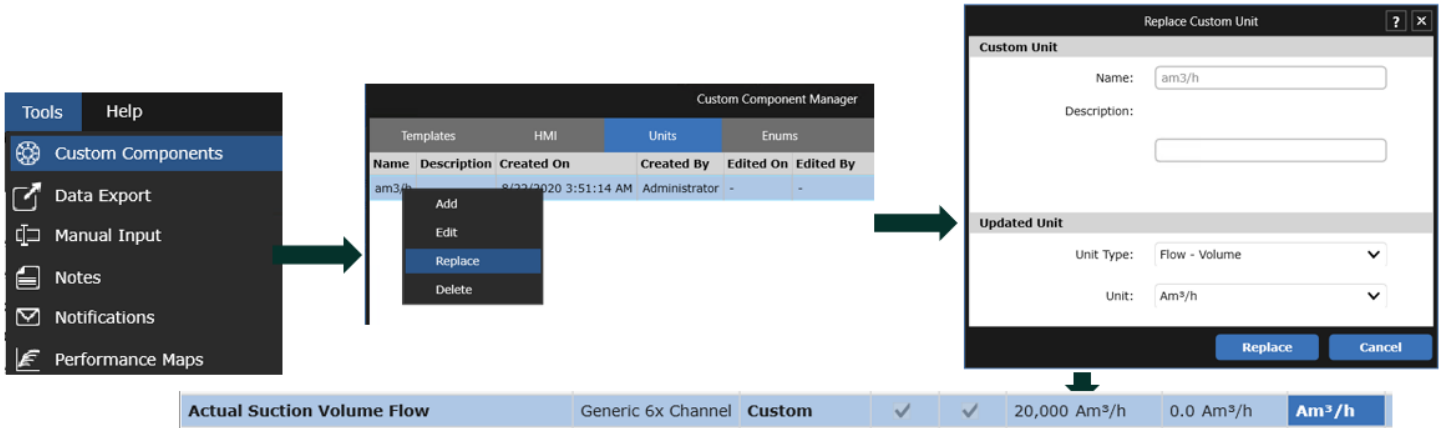

Figure 5: Assign Bentley Unit to Custom Units in Custom Component Manager
- Replace custom unit with Bentley unit (if desired) within the Units tab of the Custom Component Manager (Figure 5)